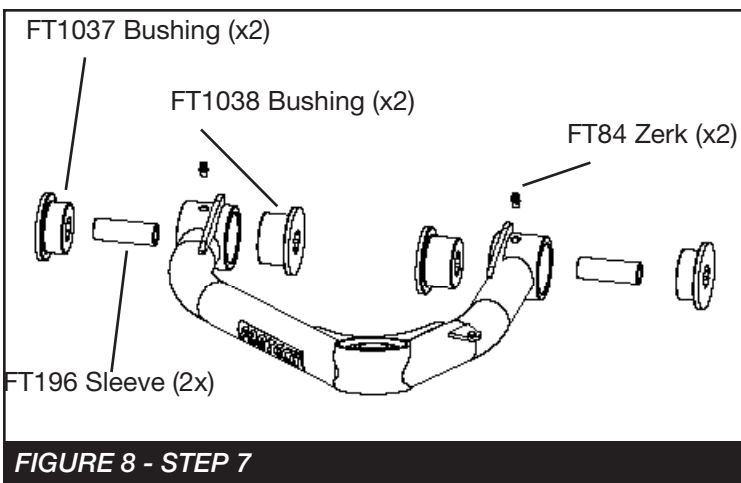

FIGURE 8 - STEP 7
7. Locate the new Fabtech control arms, two (FT1037) bushings, two (FT1038) bushings, four (FT57-1) washers, two (FT84) grease zerks, and two (FT196) sleeves. Install the components into the new control arms. **SEE FIGURE 8**